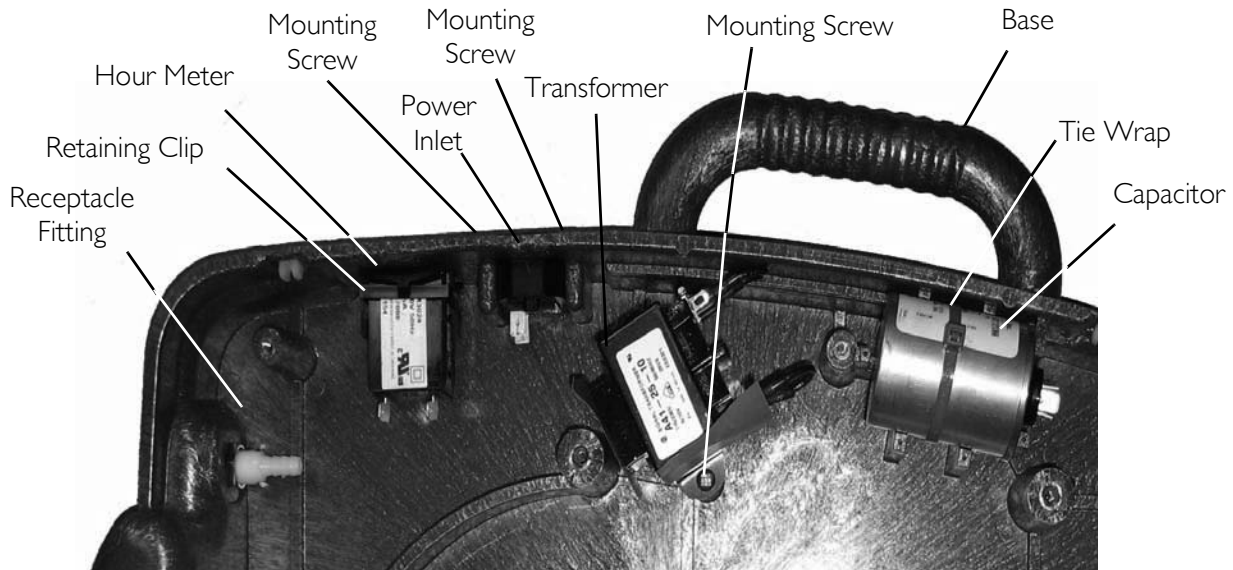

FIGURE 8.6 Base Replacement
24. Cut the tie wrap that secures the capacitor in place and remove capacitor (FIGURE 8.6).
27. Remove the two mounting screws that secure the transformer to the base (FIGURE 8.6).
28. Remove the transformer from the base (FIGURE 8.6).
29. Remove the two mounting screws that secure the power inlet to the base (FIGURE 8.6).
30. Remove the power inlet from the base (FIGURE 8.6).
31. Remove the retaining clip and hour meter from the base (FIGURE 8.6).
32. Using the $\frac{5}{8}$ open ended wrench remove the nut from the receptacle fitting (FIGURE 8.6).
33. Remove the receptacle fitting from the base (FIGURE 8.6).
2. Install the receptacle fitting into the base and secure with nut. Securely tighten. (FIGURE 8.6).
3. Install hour meter into the base and secure with retaining clip. (FIGURE 8.6)
4. Install the power inlet into the base and secure with two mounting screws (FIGURE 8.6).
5. Install the transformer into the base and secure with two mounting screws. (FIGURE 8.6)
6. Install the tie wrap mount (not shown) and secure in place with one mounting screw. (FIGURE 8.6)
7. Position capacitor as shown and secure to tie wrap mount with tie wrap (FIGURE 8.6).